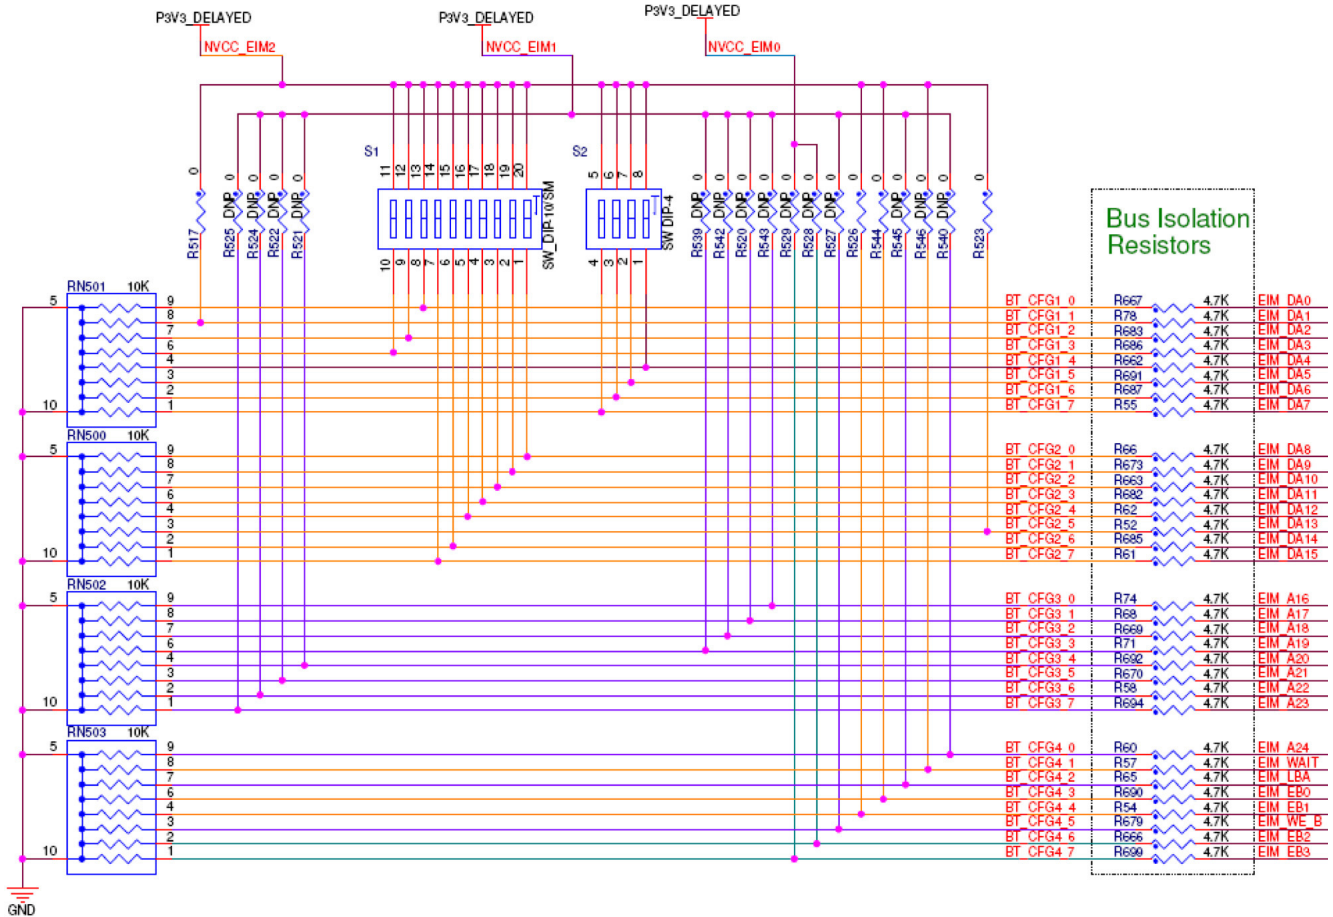

Figure 2-1. Boot configuration for development mode
1. When EIM boot signals are used as the system's EIM signals, other functions, or GPIO outputs after boot, use a passive resistor network to select the desired boot mode for development boards.	Because only resistors are used, EIM bus loads can cause current drain, leading to higher (false) supply current measurements. Each EIM boot signal should connect to a series resistor to isolate the bus from the resistors and/or switchers; see <a href="#">Figure 2-1</a> . Each configured EIM boot signal sees either a 14.7 k $\Omega$ pull-down or a 4.7 k $\Omega$ pullup. For each switch-enabled pulled-up signal, the supply is presented with a 10 k $\Omega$ current load.
2. Include EIM_A20 and EIM_A21 in the boot mode switch matrix (see <a href="#">Figure 2-1</a> ) if 64-bit LPDDR2 is being used.	In a 64-bit LPDDR2 memory design, EIM_A20 and EIM_A21 pins must be included in the boot mode switch matrix (CFG3[4] and CFG3[5]) in order to allow the selection of either dual channel mode or interleaved mode during development.